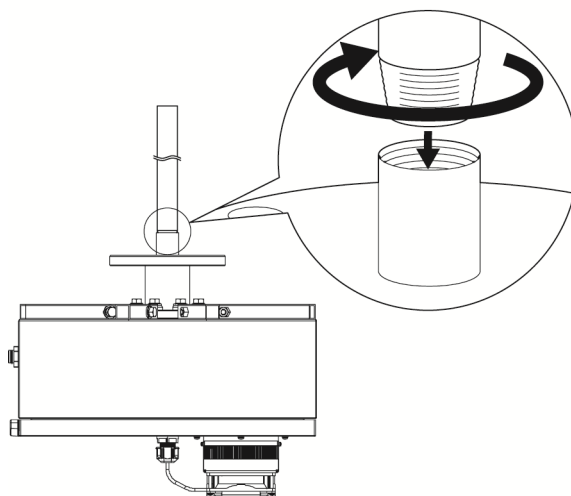

Fig. 4-11 Attachment of gas sampling probe
- (2) Next, screw in the gas sampling probe in the direction shown in Fig. 4-11, and tighten it to the extraction unit. Use a pipe wrench ($\varnothing 28$ mm or larger, total length of 500 mm or longer) to tighten (recommended tightening torque: 100 N·m).